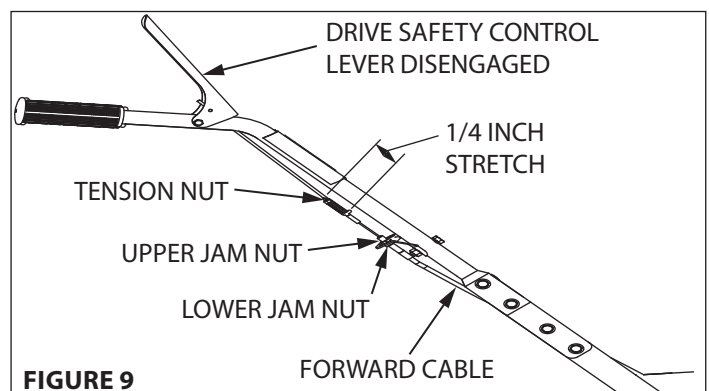

FIGURE 9
4. Pull down on drive safety control lever and measure length of spring when compressed. Ideal length would be 1/4" shorter. **SEE FIGURE 9**